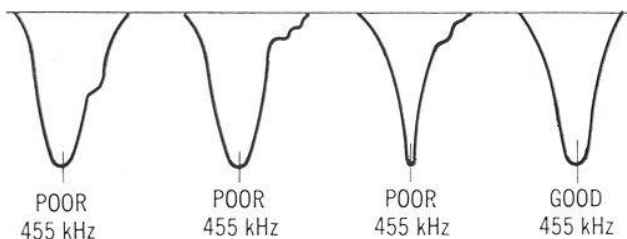

Figure 4
*Step (c).* The characteristic curve of the I.F. transformer will appear on the scope screen as the sweep output level is increased. Adjust both the top and bottom slugs of L13 so that maximum response is obtained at 455 kHz. Next, leave the audio lead as is, and connect the RF lead to G3 of V6 6BE6 (pin 7). Adjust the top and bottom slugs of the IFT (L12) for maximum response. Repeat the slug adjustments of L13 and L12 once again to obtain good characteristic response as shown below. (See Figure 4)